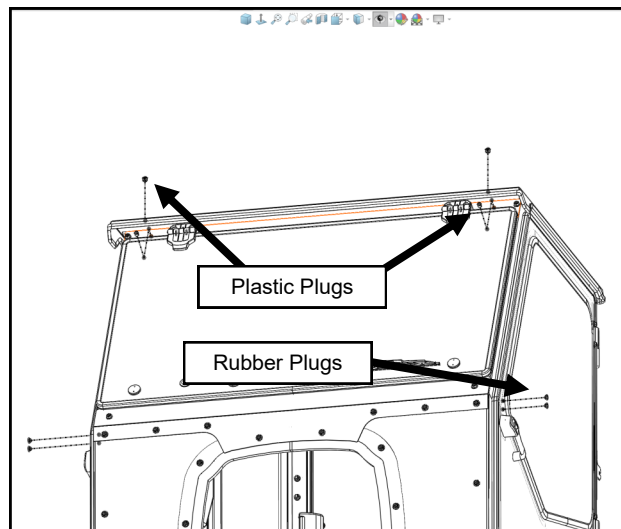

Fig. 19.1 (Install Plugs)
19.1 If installing accessories, please do so now. If not, use the supplied plastic and/or rubber plugs to fill any exposed holes. See Figure 19.1.